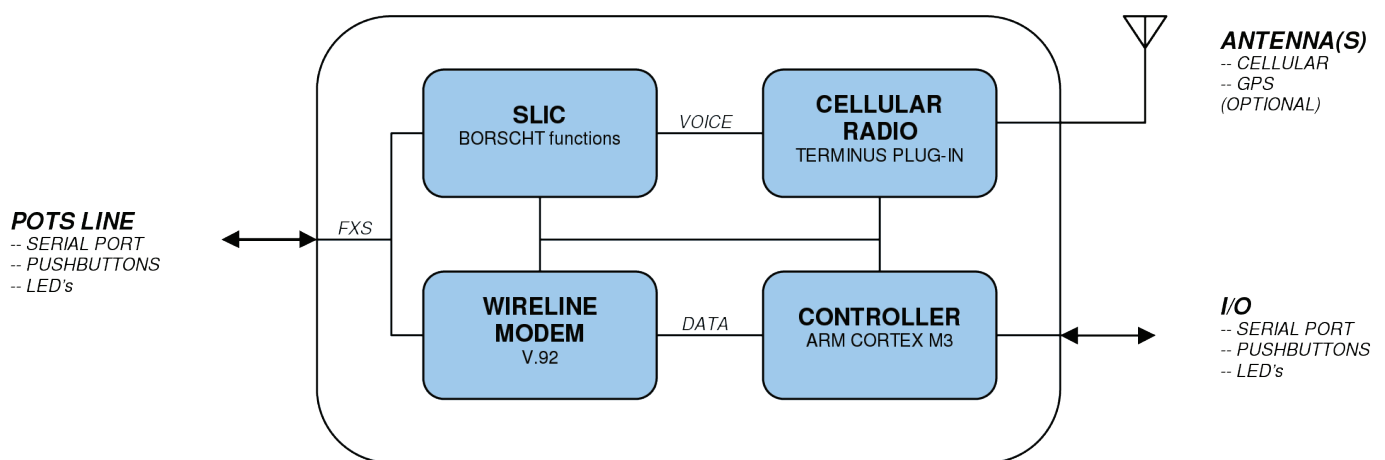

Figure 1 POTSwap Block Diagram
- Figure 1. POTSwap Block Diagram